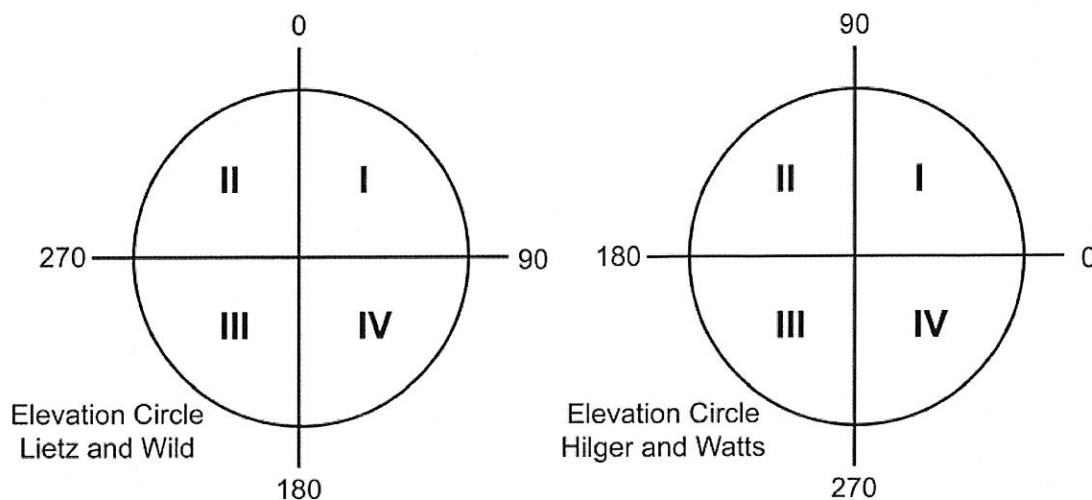

Figure 1. Elevation Circles
4. Convert the circle right readings to equivalent first circle readings. (See Figure 1 and Table 1.)
3. Convert above angles to 1st quadrant angles (see Figure 1 and Table 1)